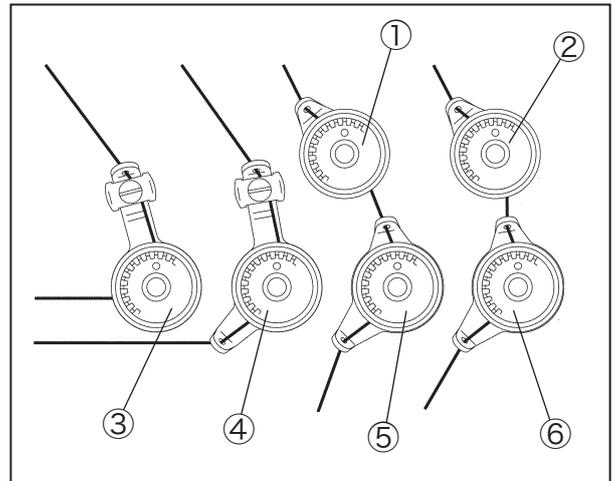

Fig. 3-1
To adjust the plain sewing seam condition, turn the thread tension spring caps ① to ④ in Fig.3-1.
To adjust the thread chain seam condition, turn the thread tension spring caps ⑤, ⑥ in Fig.3-1.